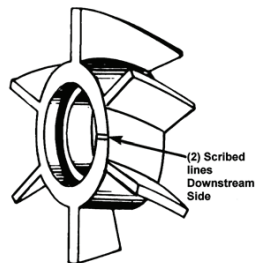

Figure 3: Scribed lines
- Inspect the rotor for markings as shown in *Figure 3* to indicate flow direction before assembly.